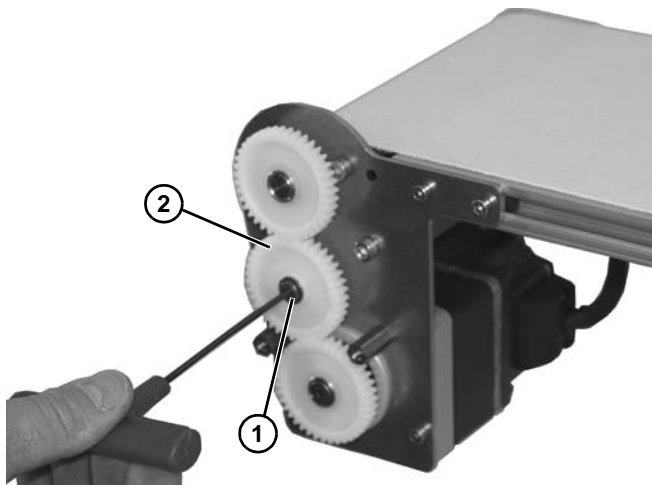

Figure 13
8. Remove screw (Figure 13, item 1) and washer from center gear (Figure 13, item 2).